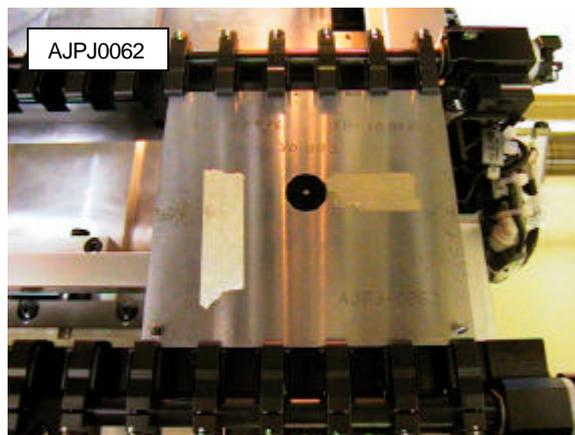

Figure 20
3. Clamp the fiducial jig plate in the main conveyor clamber. Make sure that the two tooling pins fit smoothly into the two holes on the fiducial jig plate. See figure 20: